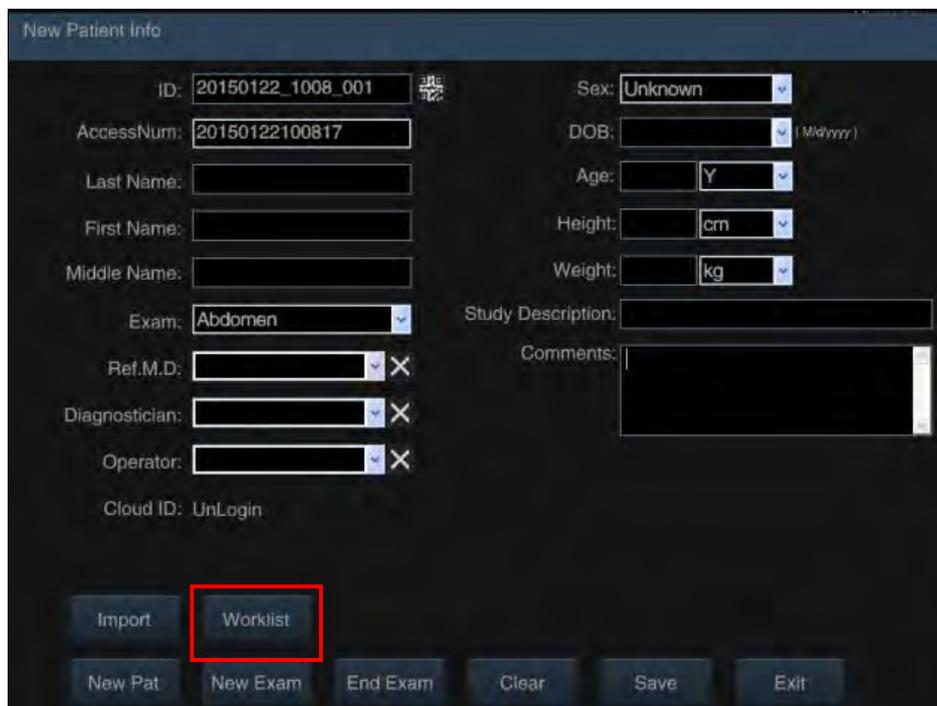

Fig. H-15 New patient info screen
- 1) Press **ID** on the control panel of the ultrasound system to open the **New Patient Info** screen, as shown in Fig. H-15.